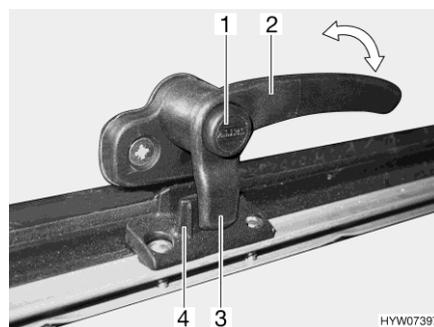
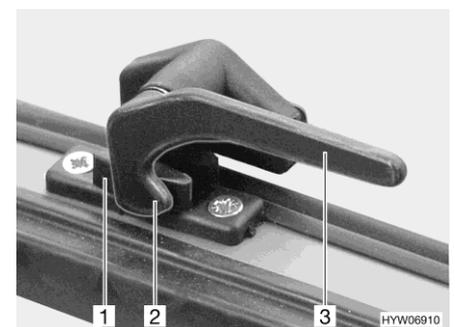

Fig. 97 Catch lever with safety knob in "closed" position
Fig. 98 Catch lever in "closed" position
- Press and hold the security button (Fig. 97,1), if present.
- Turn the catch lever (Fig. 97,2 or Fig. 98,3) a quarter turn towards the centre of the window.
- Turn the catch lever (Fig. 97,2 or Fig. 98,3) a quarter turn towards the window frame.
The locking catch (Fig. 97,3 or Fig. 98,2) on the catch lever is entirely on the inner side of the window catch (Fig. 97,4 or Fig. 98,1).
- "Firmly closed" (Fig. 97 and Fig. 98)